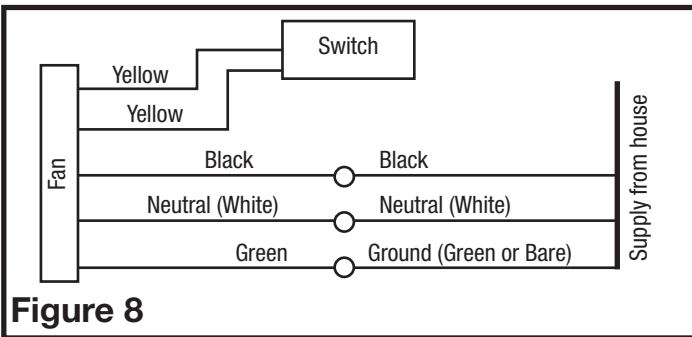

Figure 8
2. **Continuous Ventilation:** For two speed fans wired for continuous ventilation, connect the White wire of the fan to the White (Neutral) wire from the power source. Connect the ground wire from the house to the green wire from the fan housing. Run 2 wires from a properly grounded wall switch (not included) to the fan. Connect the Black wire of the fan to the Black wire (Hot) from the power source. Connect the Hot Yellow wire from the fan to the input of the switch. Connect the second Yellow wire from the fan to the output side of the switch. Closing the switch will change from normal to high speed (Figure 8).